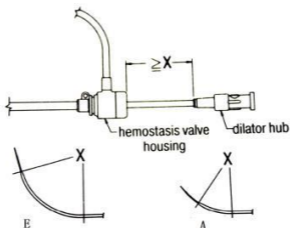

Fig.4
- Separate the sheath introducer and dilator by withdrawing the dilator a distance sufficient to accommodate the needle curve. (See Fig.4.). This will facilitate passage of the transseptal needle curve through the rigid hubs of the dilator and sheath introducer.